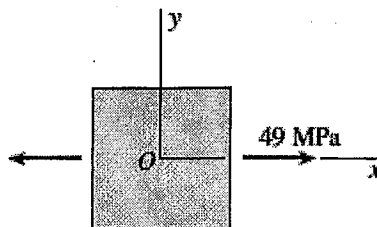

Fig.Q03
3. An element in *uniaxial stress* is subjected to tensile stresses $\sigma_x = 49$ MPa, as shown in the Fig.Q03. Using Mohr's circle, determine: